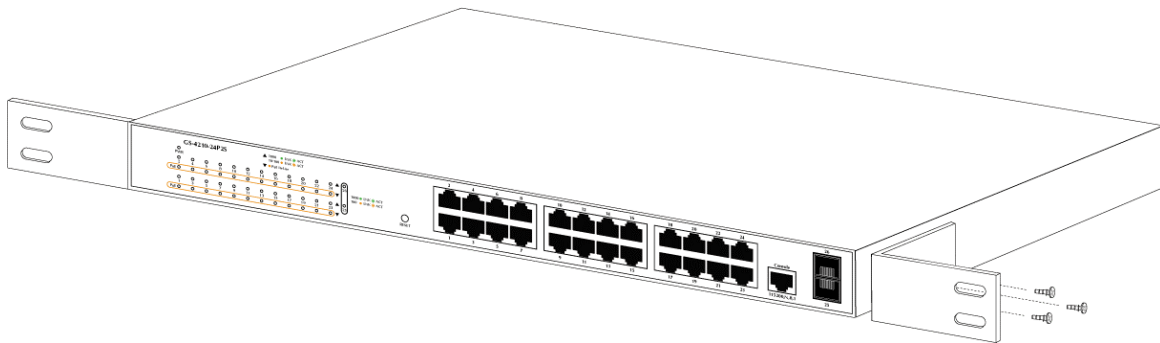

Figure 3-1: Attaching the Brackets to the 802.3at PoE+ Switch.
Step 2: Attach a rack-mount bracket to each side of the 802.3at PoE+ Switch with supplied screws attached to the package. Figure 3-1 shows how to attach brackets to one side of the 802.3at PoE+ Switch.